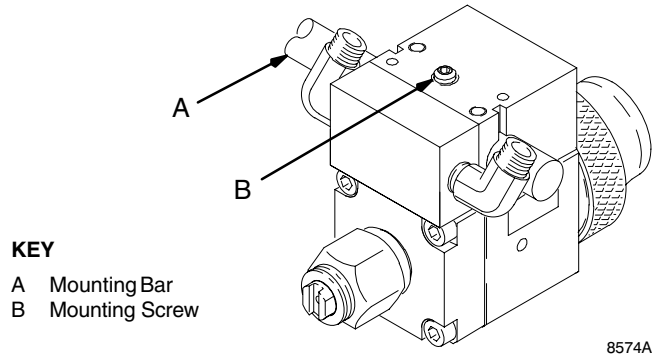

Fig. 2: Manifolds 241161 and 241162
To mount the gun on a reciprocating arm [0.5 in. (13 mm) diameter maximum], insert the bar (A) through the hole in the manifold as shown in Fig. 2. Secure the gun to the bar by tightening the mounting screw (B). The tip of the gun should be 8 to 10 in. (200 to 250 mm) from the surface of the object being sprayed.